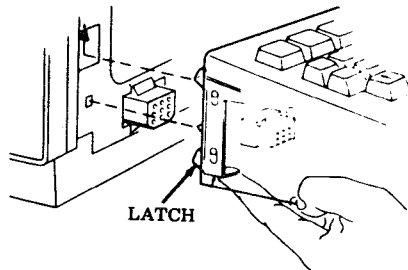

Fig. 62—KD, KDP Opcon
Step 1 — Assembly procedures for RO, KD, and KDP opcon are the same (Fig. 62 and 63):